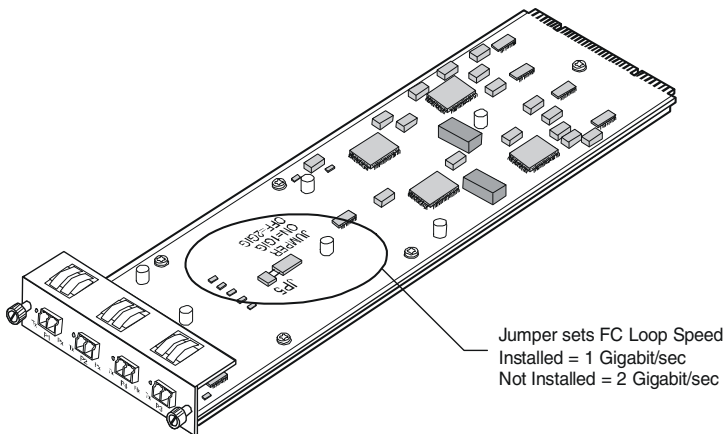

Figure 5-16 Fibre Channel Host I/O Card
The Fibre Channel (FC) host I/O card (Figure 5-16) provides the connectivity from the host computer(s) to the RAID controller FC host ports. The connectors are labeled P1, P2, P4, and P3.